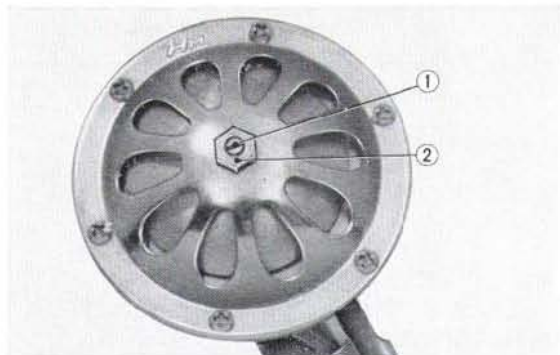

Fig. 3.4
2. Insufficient loudness : adjust the current control screw on back of the horn. (Fig. 3.4)